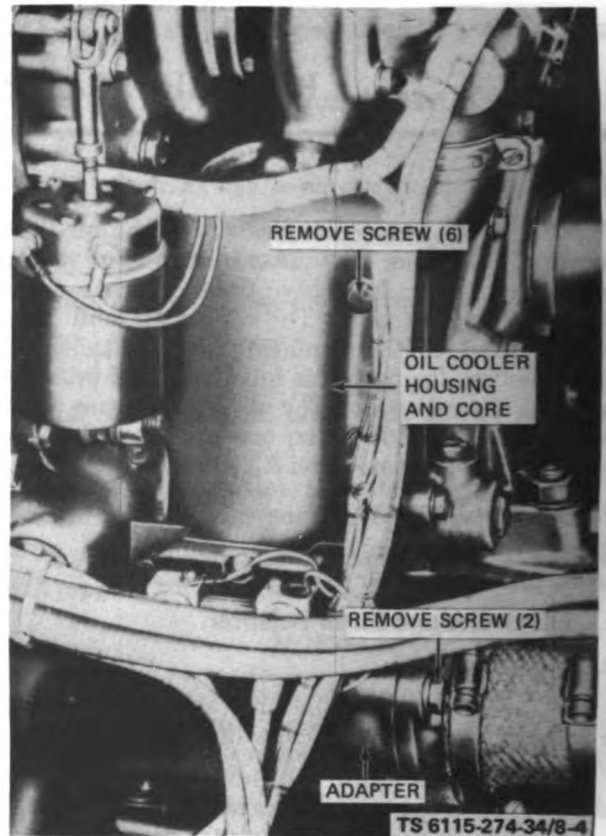

Figure 8-4. Oil Cooler Housing and Core and Adapter, Removal and Installation
(12) Loosen screws and clamps and disconnect hoses to bypass line and inlet line. Remove screw, clamp and spacer.
(13) Remove two screws and washers and remove outlet seal and retainer.
(14) Remove three screws and washers and remove water pump and gasket.
(15) Disconnect the radiator outlet pipe from the oil cooler housing.
(16) Remove two screws from adapter (fig. 8-4).
(17) Remove six screws and remove oil cooler housing and core.
(2) Install oil cooler housing and core with screws in accordance with figure 8-4.
(3) Connect adapter with two screws.
(4) Connect the radiator outlet pipe to the oil cooler housing.